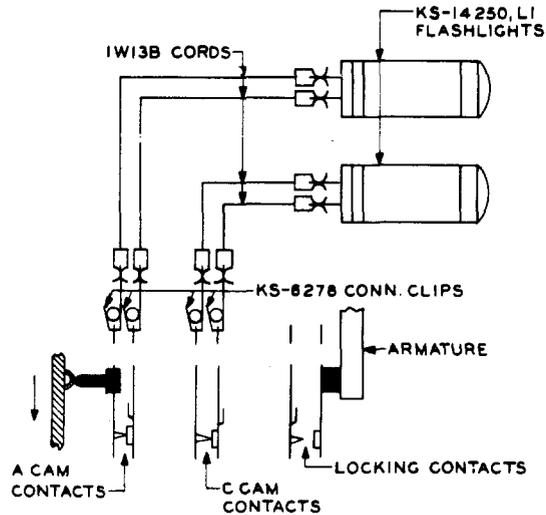

Fig. 20 - Connections for Checking Timing Interval
L (2) Initial Registration - Minimum Timing Interval: Connect the flashlights to the proper spring terminals at the rear of the timer, as shown in Fig. 20. Both flashlights should light. Operate the timer magnet by connecting ground to the right winding terminal connection at the top of the timer. Begin timing with the KS-3008 stop watch when the "A" cam contacts break. After an interval of a few seconds less than 5 minutes, the "C" cam contacts will break and then release. Cease timing at the reclosure of the "C" cam contacts.